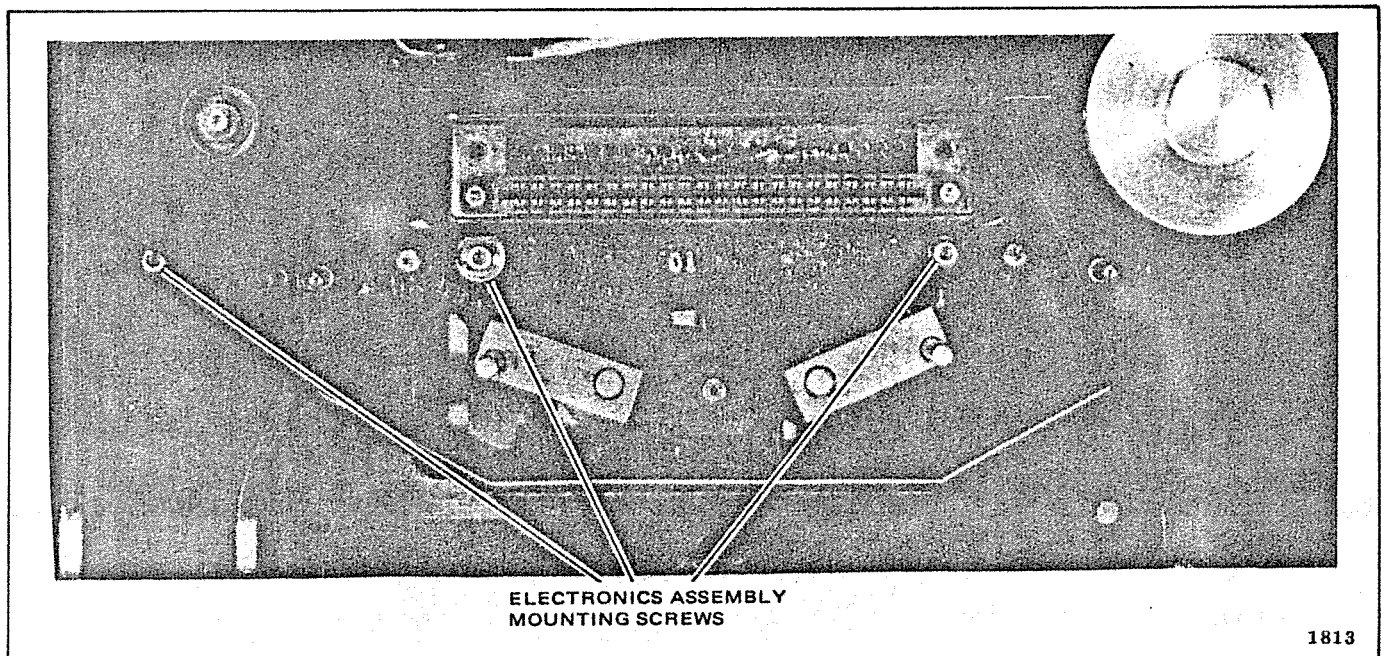

Figure 5. Electronics Assembly Mounting Screws, Location
22. From the top of the transport, remove three 6-32 cap screws (Figure 5) that secure the electronics assembly to the transport.